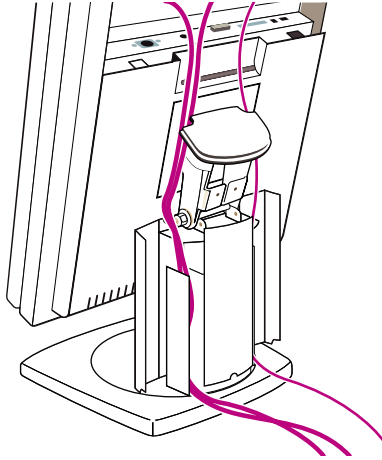

Figure 28: Display rear view
2. Route the cables alongside the neck and in the cable ducts in the tilt & swivel foot. See figure 28 above.